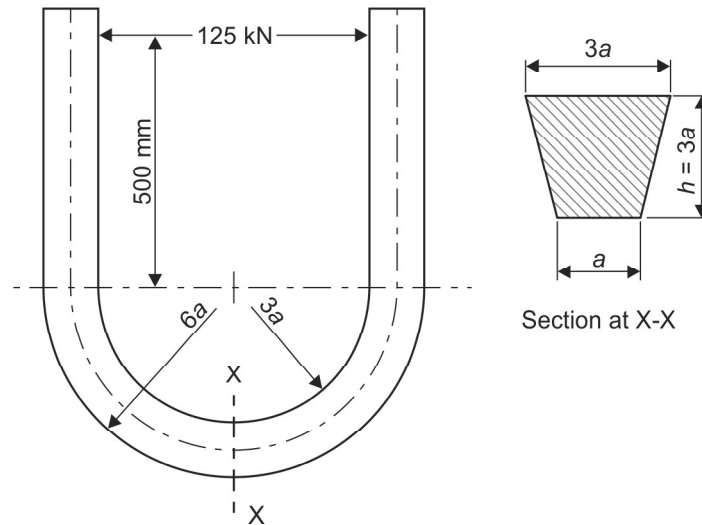

Fig. 1.37(a): Problem 32
32. The U-section frame is to resist a straightening load of 125 kN as shown in Fig. 1.37(a). The material of the frame has a permissible stress of 65 MPa. Determine the dimensions of the frame.